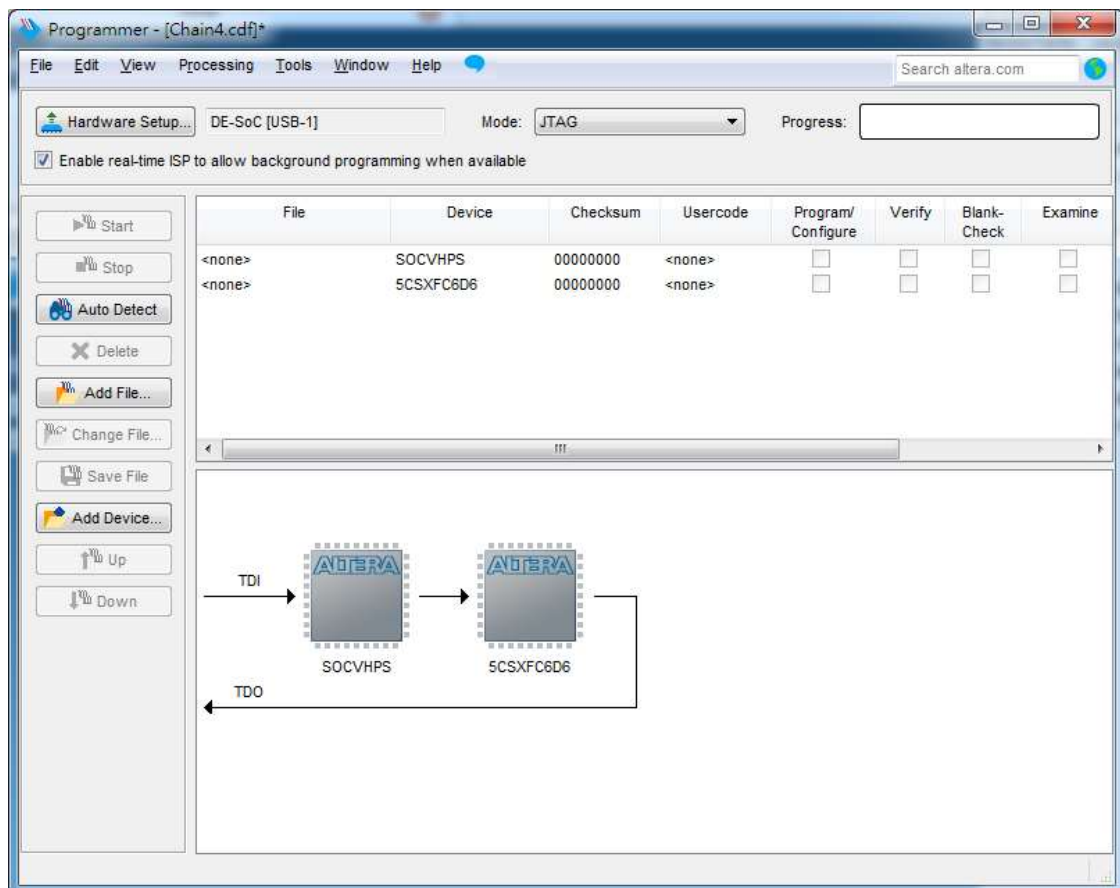

Figure 3-5 FPGA and HPS detected in Quartus programmer
- Both FPGA and HPS are detected, as shown in Figure 3-5.